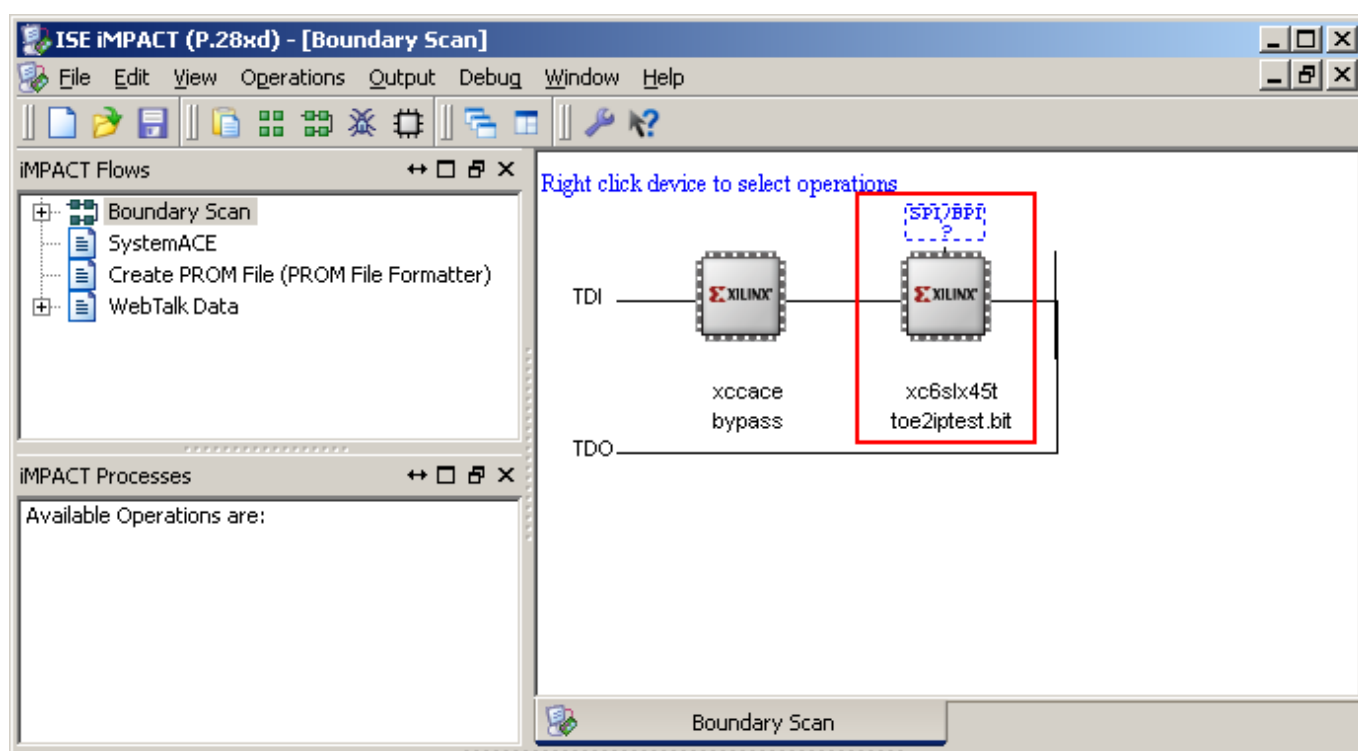

Figure 5 Programmer Environment
- Open iMPACT and download “toe2iptest.bit” to SP605 development board, as shown in Figure 5.